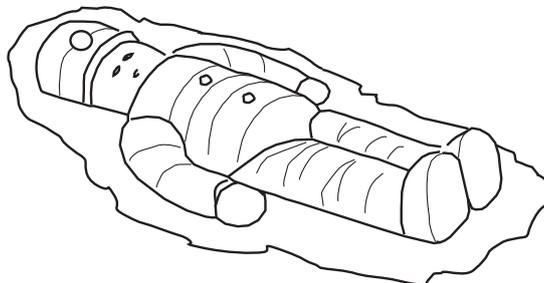

Fig. 4
- 10 Fig. 4 shows a figure made by the injection moulding process.